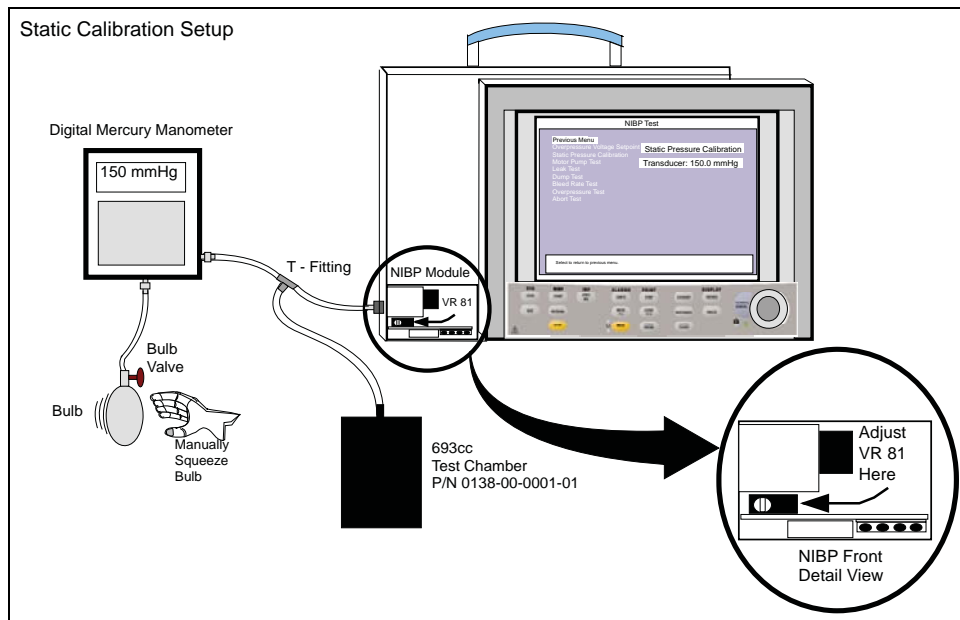

FIGURE 4-11 Static Calibration screen
6. Adjust R81 potentiometer and verify the linearity accordingly. See Figure 4-11.